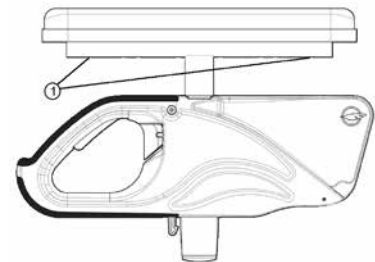

Fig. 17
- Open the clamp (1) to install it around the back cane so that the finger (2) is parallel to the rear wheels.
- Be sure to place the clamp as high as possible without exceeding the clothes guard (3), making sure that it is inserted as far into the finger as possible.
- Remove screws (1) (Fig. 17) located under pad (through the tube).
- Reinstall screws (1) and tighten firmly.